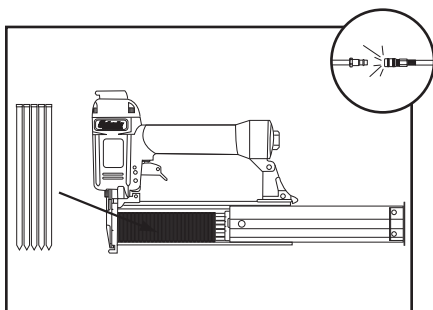

Figure 4. Loading nails into magazine.
4. Insert a strip of nails, pointed-end down, into the magazine as shown in **Figure 4**.